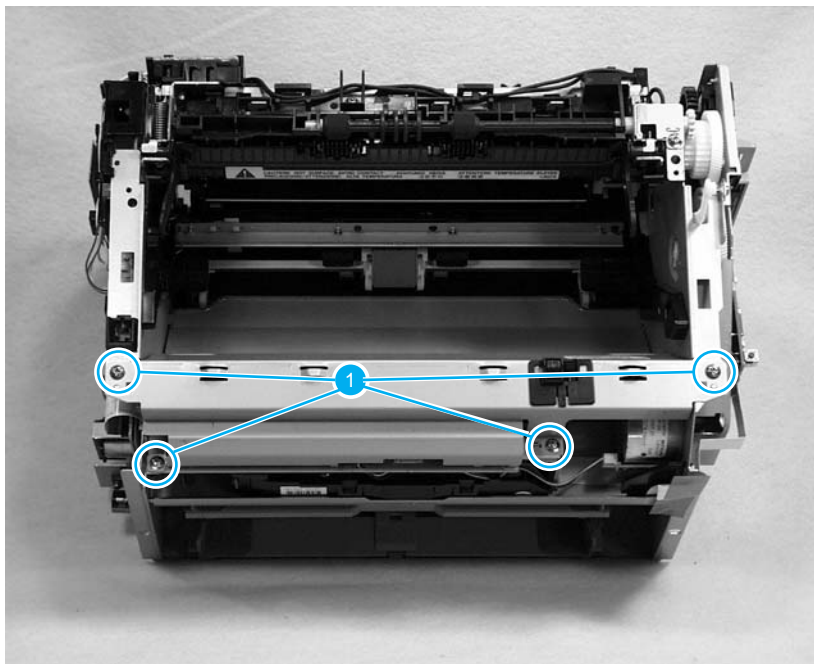

Figure 5-27.
7. Remove four screws (callout 1, figure 5-27).